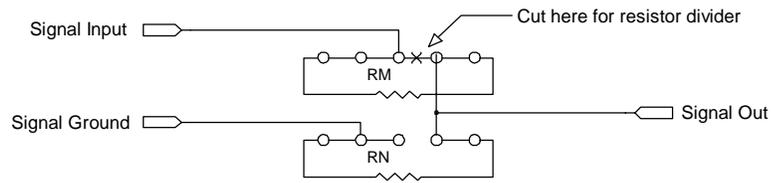

Figure 5.
To configure a current input, place a resistor in the location on the termination board corresponding to the input pin being reconfigured. Figure 5 and Table 2 show resistor placement. The appropriate size for this resistor can be calculated using Ohms law, given the maximum input current and the input voltage range of the Data Acquisition Processor.
Once this trace is cut, the resistors for the voltage divider are soldered into place. The resistor on the ground side of the divider is placed in an even numbered resistor location and the resistor on the input signal side of the divider is placed in an odd numbered resistor location. Figure 5 and Table 2 illustrate resistor placement for each input.
** The first resistor is on the ground side of the voltage divider (RN), the second is on the input signal side (RM), as shown in the previous diagram. For example, R2 is RN and R1 is RM. Figure 5 shows the resistor placement.
Table 2 and Figure 5 can be used to locate the appropriate resistors when using either the current input or voltage division configuration. Figure 5 shows schematically how the inputs and grounds on the termination board are connected.